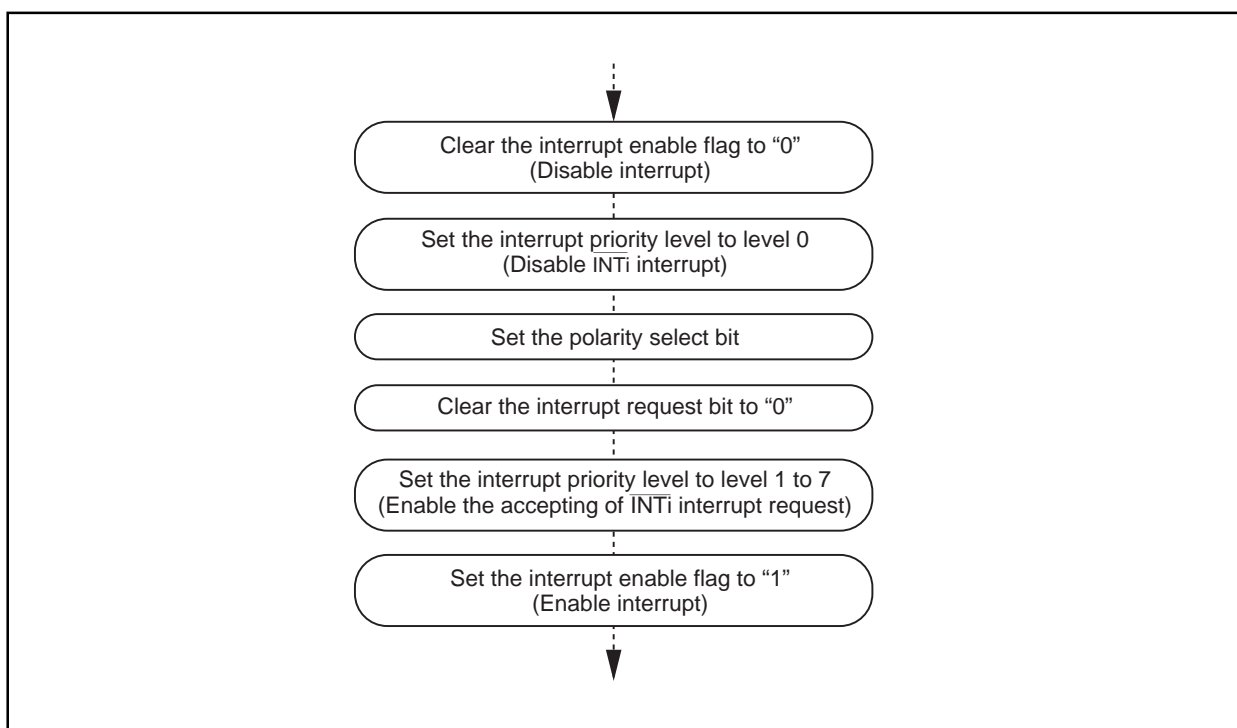

Figure 1.33. Switching condition of INT interrupt request
(2) Setting the stack pointer
(3) External interrupt
- When changing a polarity of pins $\overline{\text{INT0}}$ and $\overline{\text{INT1}}$, the interrupt request bit may become "1". Clear the interrupt request bit after changing the polarity. Figure 1.33 shows the switching condition of $\overline{\text{INT}}$ interrupt request.